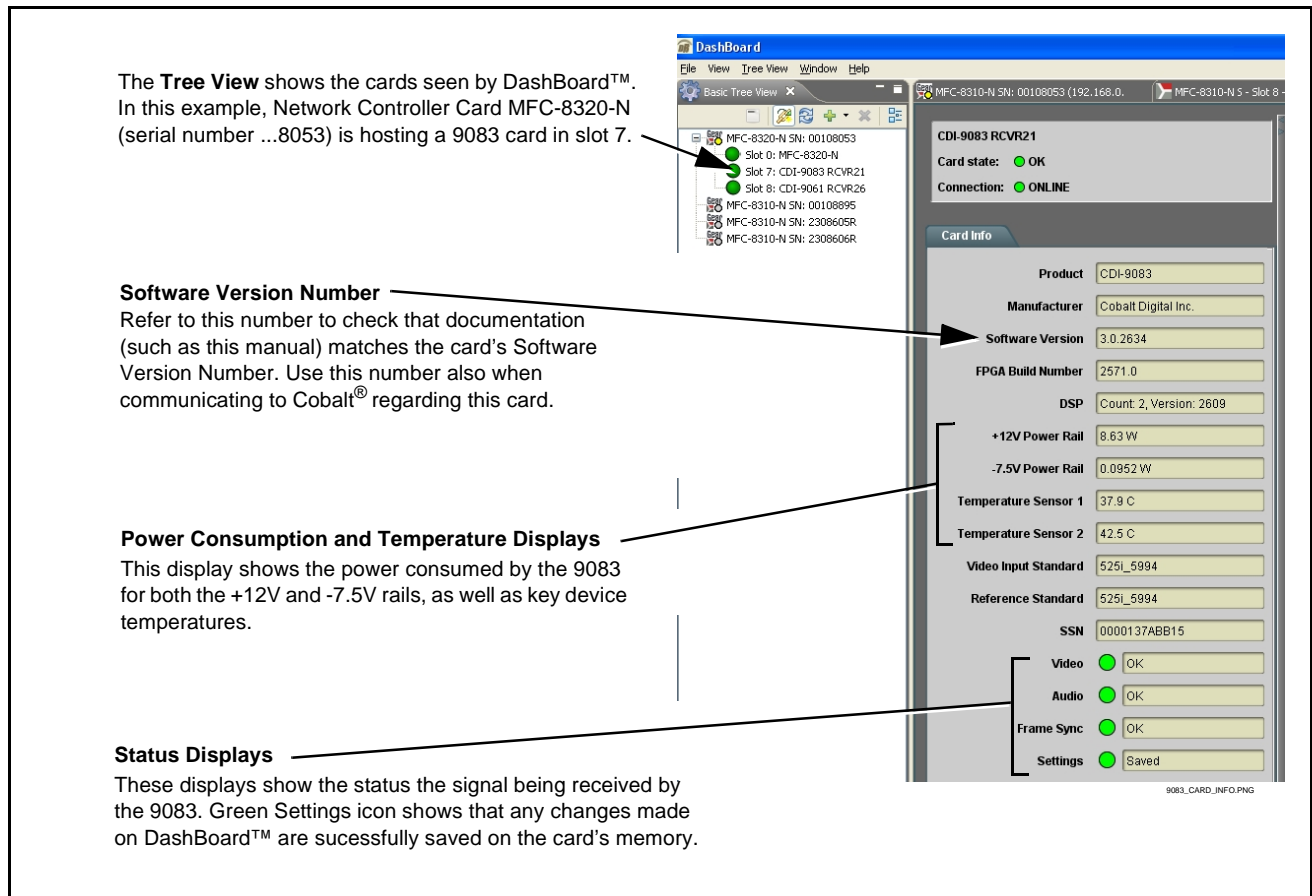

Figure 3-4 9083 Card Info Utility
The operating status and software version the card can be checked using DashBoard™ or the card edge control user interface. Figure 3-4 shows and describes the 9083 card information screen using DashBoard™ and accessing card information using the card edge control user interface.
**Note:** Proper operating status in DashBoard™ is denoted by green icons for the status indicators shown in Figure 3-4. Yellow or red icons respectively indicate an alert or failure condition. Refer to Troubleshooting (p. 3-65) for corrective action.